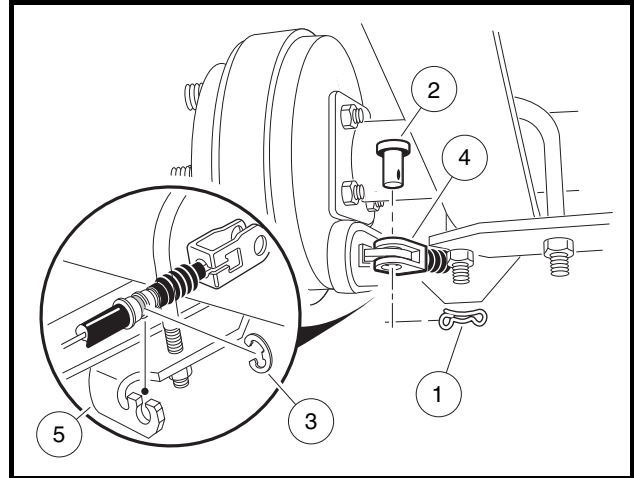

Figure 6-39 Disconnect Cables at Rear Brakes
- 4.1. Remove bow-tie pins (1), clevis pins (2), and E-clips (3) (**Figure 6-39, Page 6-23**).
2. At the rear wheel brakes, connect the cables to the brake actuator arms using clevis pins (2) and new bow-tie pins (1) (**Figure 6-39, Page 6-23**).
3. Place cables in cable support bracket (5) and secure with E-clips.